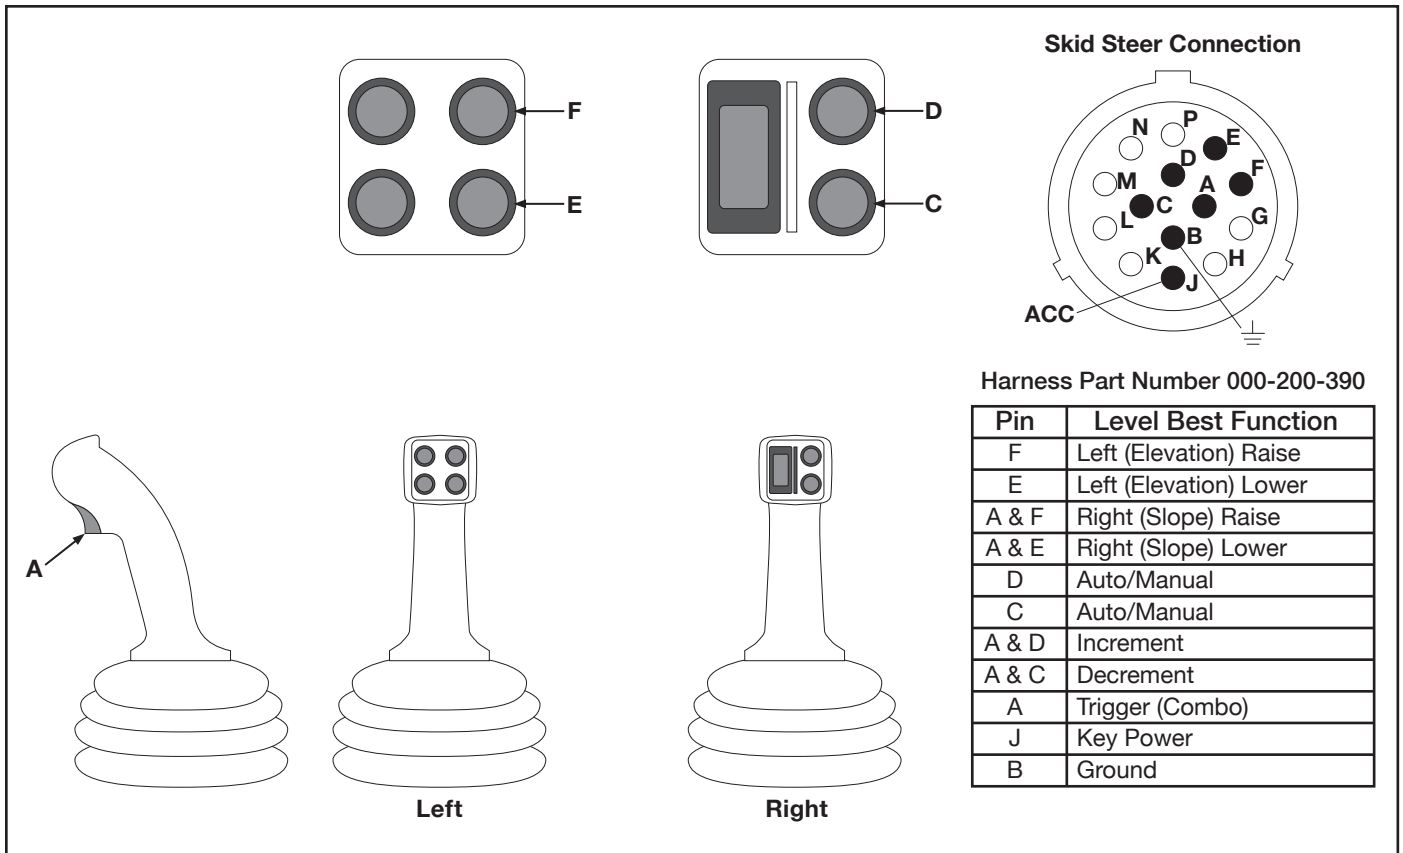
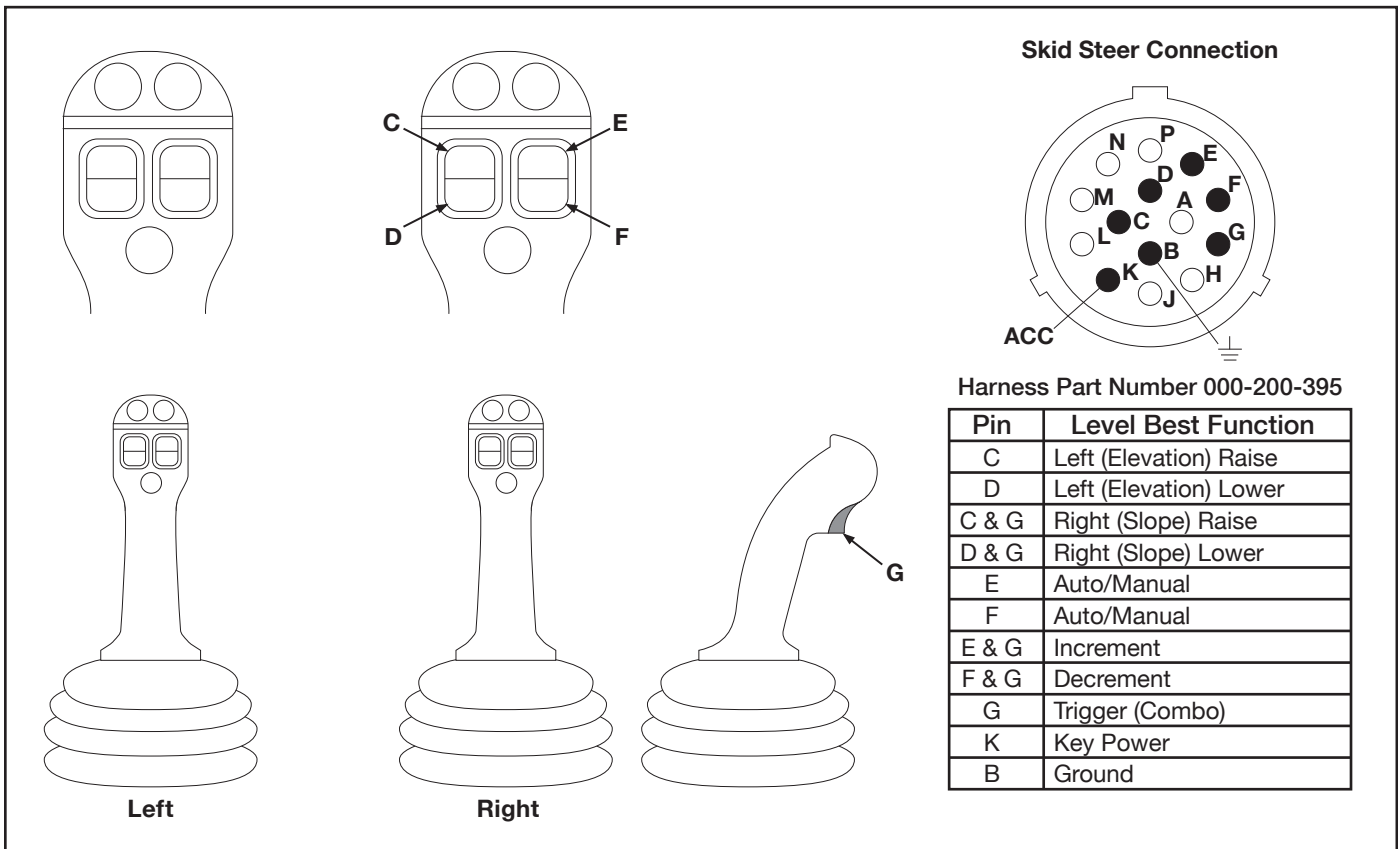

Figure 9. Cat D-Series Joystick Functions
Figure 16. JCB/Volvo Joystick Functions
**Figure 9 through Figure 16** show the functions and pinouts of the various integrated control systems based on the skid steer manufacturer. Only the functions and pinouts used are specified.